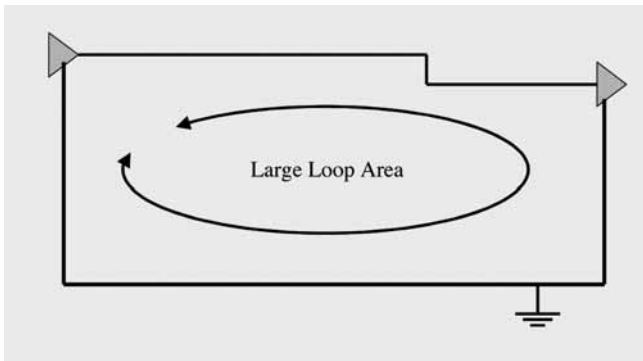

Figure 1. Example of Single Sided PCB Routing with Large Loop Area for Signal Current
One and two-layer boards present a definite challenge for EMC design. While 'generic' EMC design rules claim this stack-up is not recommended, it is often selected for considerations other than EMC, such as low cost, etc. With this stack-up, there are normally no solid planes and all signals, power and returns (sometimes called 'ground'¹) are routed as traces. While the signal speeds on these boards are normally less than might be expected on the multilayer boards with solid planes, they can still cause EMC problems. The main EMC concern in this design strategy is to keep the loop area for the signal current as small as possible and not allow large loop areas for current as illustrated in Figure 1. Remember, the current must always return to its source, and the return path creates part of this total loop.
The loop shown in Figure 1 is not a simple rectangle, and so there is no simple formula to calculate the strength of the radiated fields; however, if we examine the formula for an electrically small simple loop we can see the direct relationship of the radiated fields and the loop area. Equation 1 [1] gives the electric field strength in the far field for a small loop antenna. The electric field strength increases/decreases in direct proportion to the area (A) of the loop.